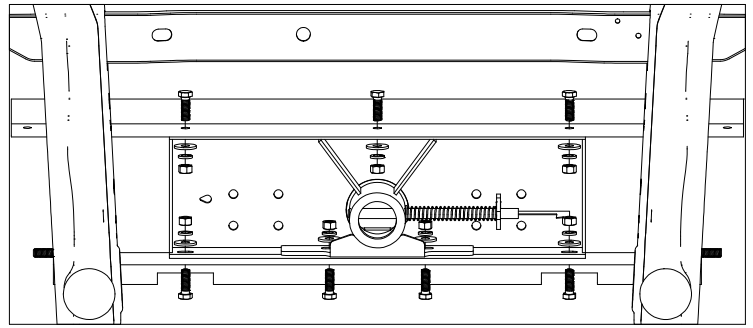

Figure B3: View looking up under truck bed.
3. **Install center section.** With the latch pin mechanism on the driver side of the truck, raise the center section of the hitch into position between the cross members from beneath the truck. The round tube hitch receiver that protrudes from the center section must fit through the hole in the truck bed floor. Fasten the center section to the cross members using seven of the 1/2" x 1 1/2" bolts. Start these bolts through the holes in the cross member and place a flat washer, a lock washer and nut on each bolt, see Figure B3. Do not fully tighten at this time.